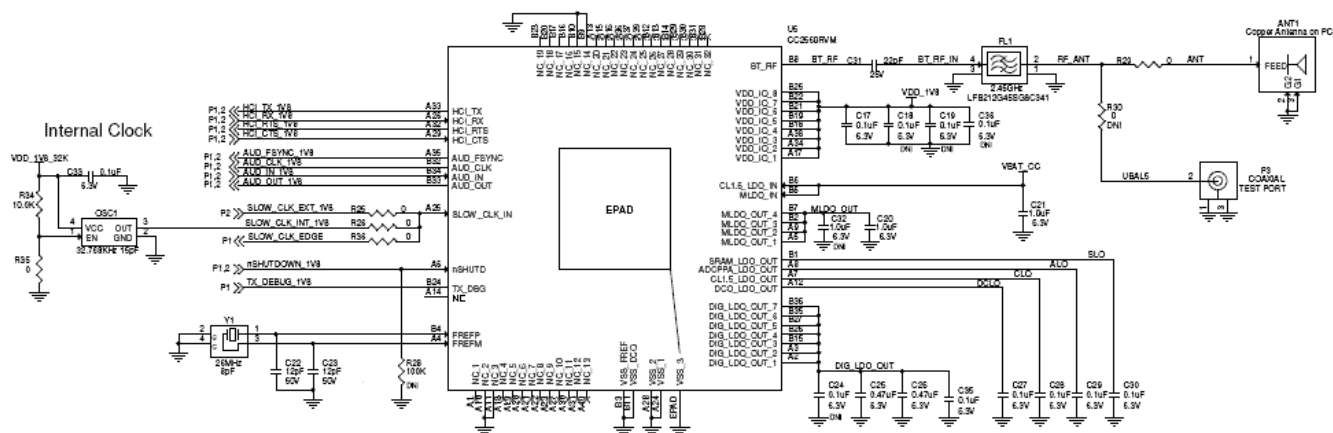

Figure 6-1. Reference Schematics
(1) Meets FCC and ETSI requirements with external filter shown in Figure 6-1
Figure 6-1 shows the reference schematics for the CC256x device.